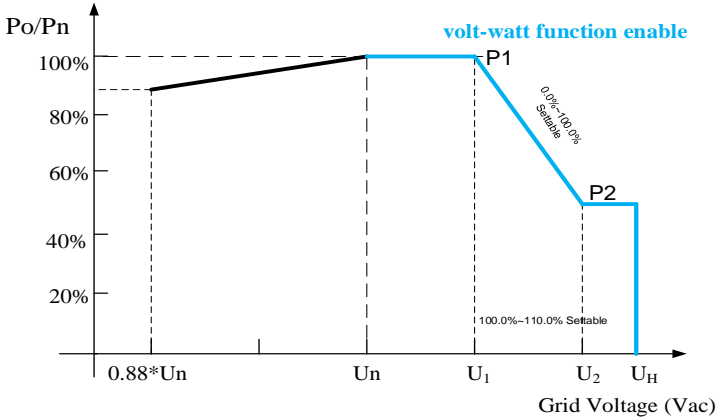

Figure 10-3-2 SCA36/50/60KTL Derating Curve of Grid Voltage
- 2) When volt-watt function enable, the grid voltage is within 100%~106% ($U_n \sim 1.06*U_n$) of the Rated Output Voltage, the inverter output power (P_n) may reach 100%. When the grid voltage is lower than the Rated Output Voltage or more than 106% U_n , the inverter will limit the AC Output Current and the output power (P_n) will begin to derate, shown in Figure 10-3-2.